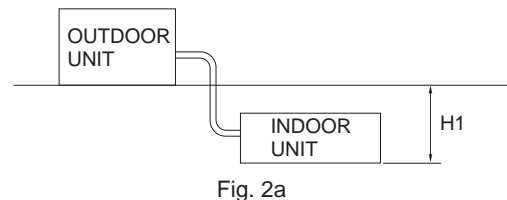

Fig. 2a
- install the unit within the maximum elevation difference (H1, H2) above or below the outdoor unit and within the maximum allowable tubing length from the outdoor unit to the door unit as detailed in table2 and Fig2a and Fig2b.